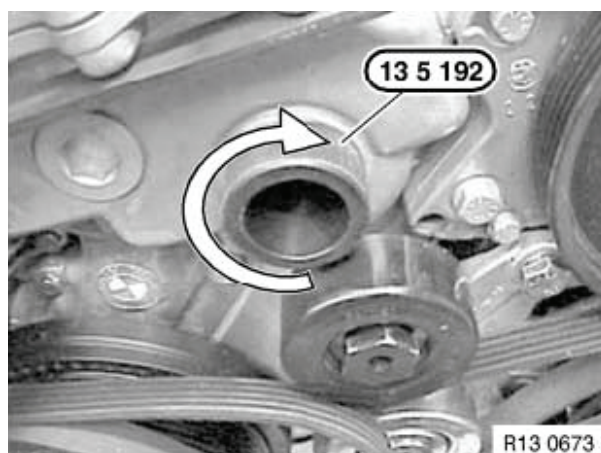

Figure 6-23
11. Thread special tool OEM No. 13 5 192 into timing case cover (**Figure 6-23**).